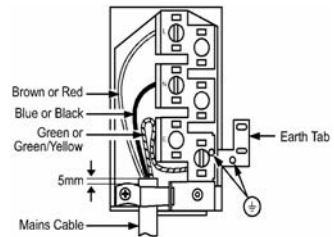

Fig.11
- Make connection as shown in Fig. 11 by proceeding as follows:-
- Clamp the mains cable securely ensuring 5mm of the outer insulation is inside the terminal block and that the wires are not taugt but not so slack as to cause any fouling. See Fig. 11.